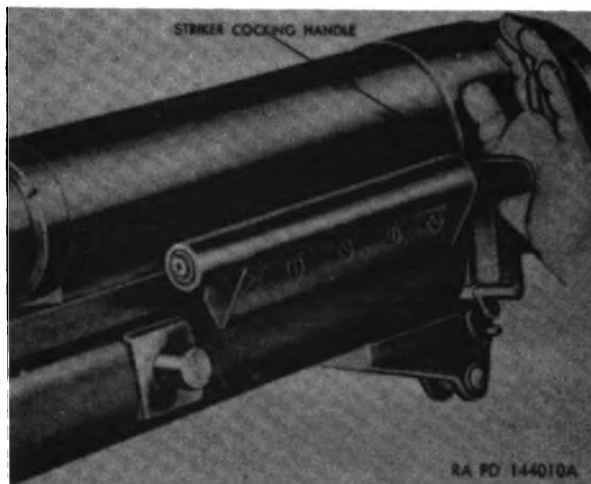
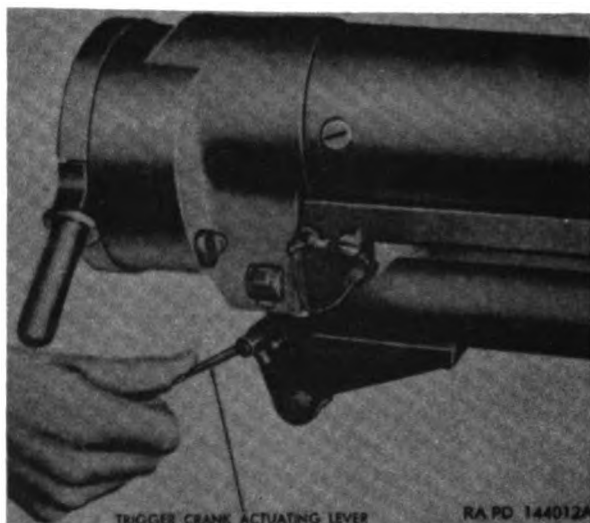

Figure 177. Cocking the 37-mm gun.
Figure 178. Depressing trigger crank actuating lever.
a. The 87-mm gun (figs. 178 and 174) is a single-shot, hand-loaded weapon with a manually-operated eccentric-screw type breechblock.
b. The 87-mm gun recoil mechanism M1916 (fig. 178) is a hydrospring type and consists of the recoil mechanism and coun-
c. The 87-mm subcaliber mount M18A1 (fig. 178) consists of a cradle mounting bracket to which the detachable right trunnion bearing bracket is fastened. The left trunnion bearing bracket is cast as an integral part of the cradle mounting bracket. Both trunnion bearings are equipped with fillister head machine screws and hexagon plain nuts, which not only retain the gun cradle in position but also provide a means of lateral adjustment. The collar at the front end of the cradle mounting bracket houses two side adjusting machine screws and one bottom hook bolt and their hexagon plain nuts, which retain the front end of the recoil cylinder and also provide a means of vertical adjustment (par. 155a(1)).
**b. Striker Cocking Handle.** The striker cocking handle (fig. 177) is located on the left side of the gun near the breech. Before firing the first round or after a failure to fire, the gun must be manually cocked by
**c. Trigger Crank Actuating Lever.** The trigger crank actuating lever (fig. 178) is located on the right side of the gun just below the breech. The gun is fired by pushing this lever down with the thumb.
- Remove the mount from the 155-mm howitzer recoil mechanism cradle by unscrewing the two hexagon head cap mounting screws (fig. 178) that secure the mount.
- To remove the gun, release the striker by pressing down on the trigger crank actuating lever (fig. 178) while applying pressure against the cocking handle (fig. 177), thus preventing too fast a movement of the striker (fig. 184). Remove the piston crosshead key assembly (fig. 185) by pressing its latch upward and pushing the key out to the left.
- Breech mechanism.* To remove the breechblock when the subcaliber gun is installed on the recoil mechanism, cock the piece by means of the stroker cocking handle (fig. 177). Remove the breechblock